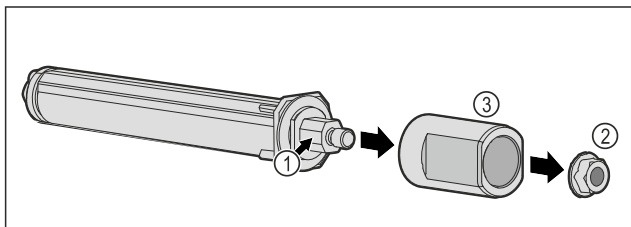

Fig. 58
- ▶ Do not disassemble the door locking system Fig. 58 (1).
- ▶ Remove the Fig. 58 (2) nuts.
- ▶ Take off the Fig. 58 (3) sleeve.